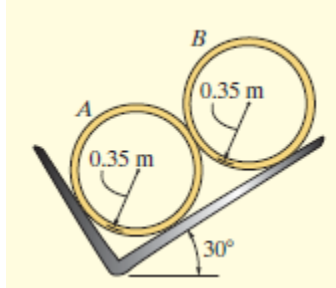

Figure 4
4. Two smooth pipes, each having a mass of 300 kg, are supported by the forked tines of the tractor in Fig.4 . Draw the free-body diagrams for each pipe and both pipes together.